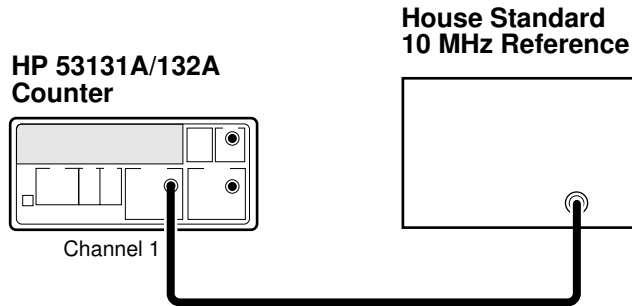

Figure 2-5. Standard Timebase Calibration Setup
- 1 Connect the output of a 10 MHz house standard to Channel 1 of the Counter as shown in Figure 2-5.
- 1 Connect the output of a 10 MHz house standard to Channel 1 of the Counter as shown in Figure 2-5.**